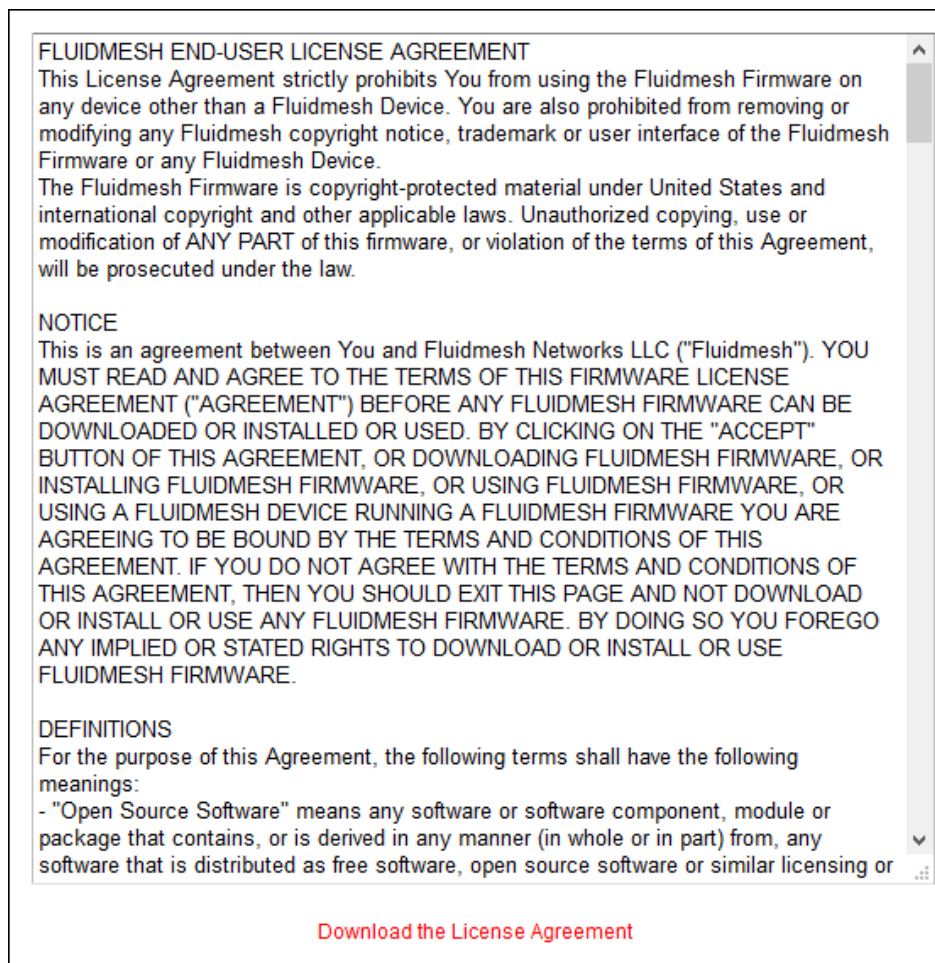

Figure 67. Configurator GUI (End-user license agreement)
- The license agreement dialog will be shown (Figure 67 \(page 143\)).